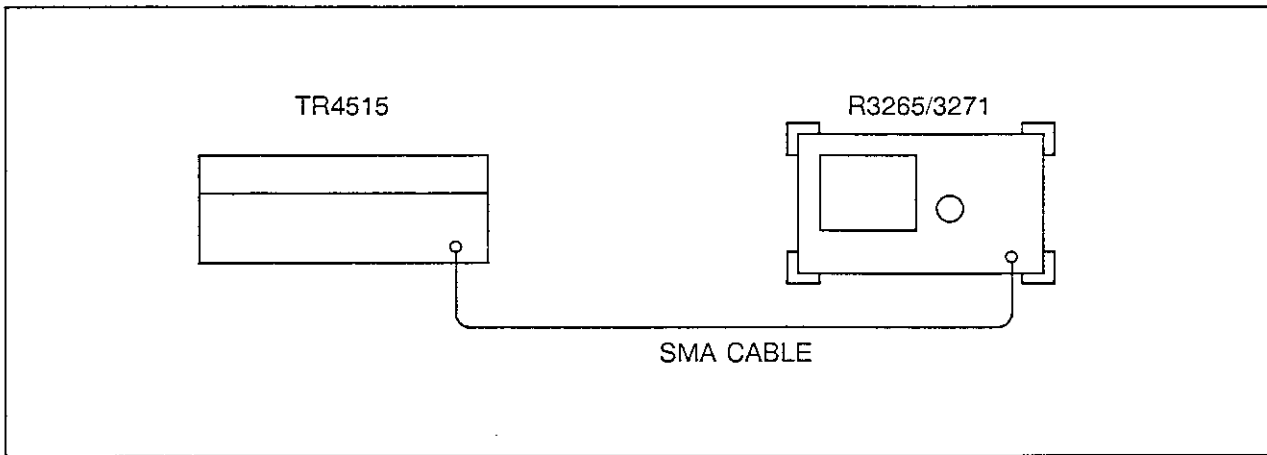

Figure 5-10 YTO Adjustment Setup
- (1) Connect the equipment as illustrated in Figure 5-10.
- (2) Press the **INSTR PRESET** key on the TR4515 and set the controls as follows: